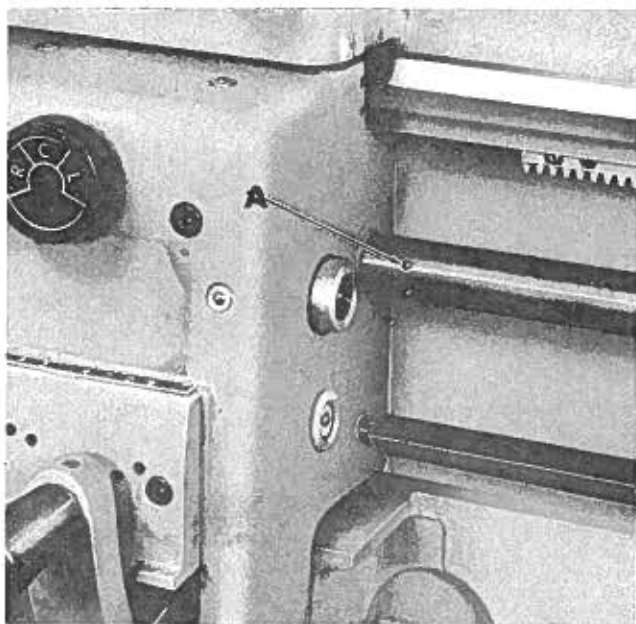

Figure 19
3. Remove sheared pin (A, fig. 19) from gear box shaft and lead screw.